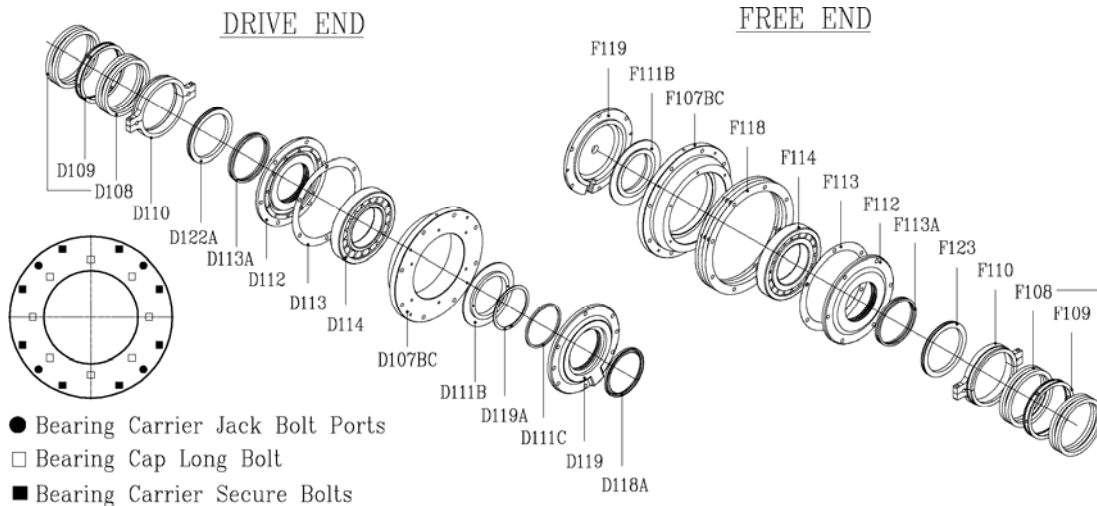

Figure 12. Removal of bearing carrier
1. **Remove the bearing from the shaft (see Figure 12.)**
1. Remove free end bearing carrier (F107BC) with bearing (F114) from shaft (M103) (see Section 12 and Figure 12: Remove Bearings From Shaft). If both ends of the pump are to be disassembled, remove both bearing carriers.